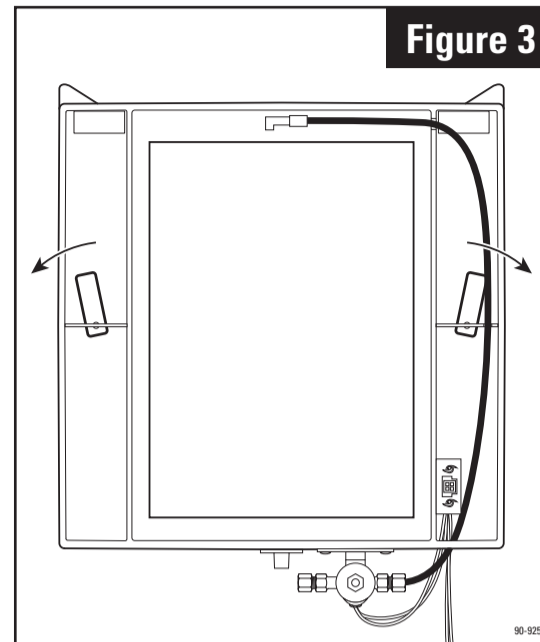

Figure 3
**4.** While pressing the base against the plenum, reach through the center opening and turn left and right swing latches down to secure the base onto the plenum. (See Figure 3)
**5.** Reinstall the evaporative assembly into the base, with the bottom of the scale control insert (5) sitting firmly in the inside of the drain spud attached to the base. Push the evaporative assembly in at the top between the retaining ribs that hold the assembly in place in a vertical position. Reinstall cover assembly by hooking at the top of base assembly and latching at the bottom.